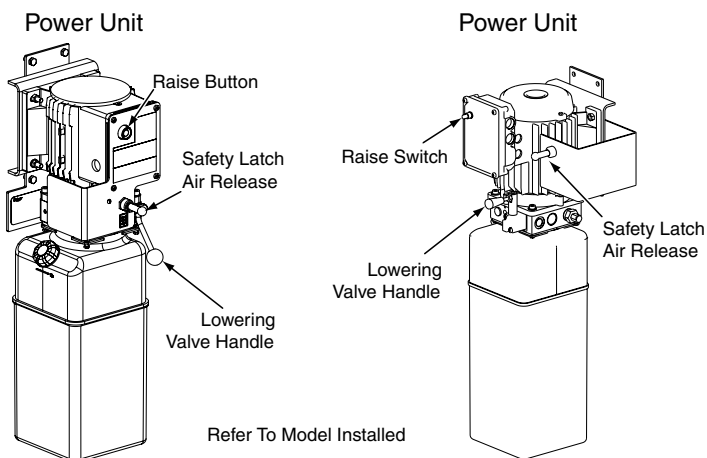

Fig. 8
4. Lift Controls: The Raise Switch, Safety Latch Air Release, and Lowering Valve are designed to close when released, Fig. 8. **Do Not** block open or override self-closing feature.
- A. Push Raise Switch, Fig. 8. Raise lift until vehicle tires clear the floor.